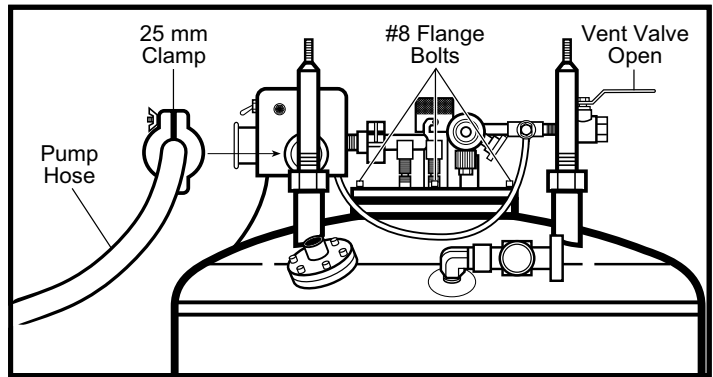

Figure 3-5 Inserting Cryostat and Attaching Pump Hose
7. Tighten the eight cryostat flange bolts with the $\frac{9}{64}$ -inch Allen Wrench. Complete steps 7-11, then tighten them again. (Figure 3-5).
8. Clamp pump hose to Solenoid Valve Assembly with 25 mm clamp (Figure 3-5). Plug in pump and turn it **On**.